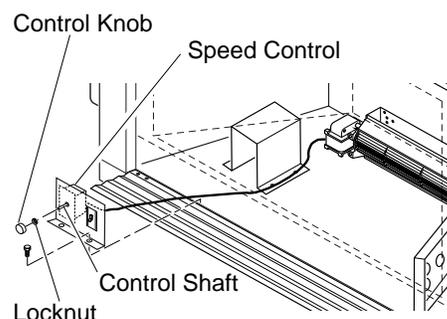

Figure 32 - Attaching Speed Control to Firebox
5. Place speed control against back of this plate and push the plastic control shaft through opening (see Figure 32).
6. While supporting speed control, secure control shaft with lock nut by pushing and turning lock nut with pliers clockwise until tight against the plate. Place control knob provided onto shaft (see Figure 32).